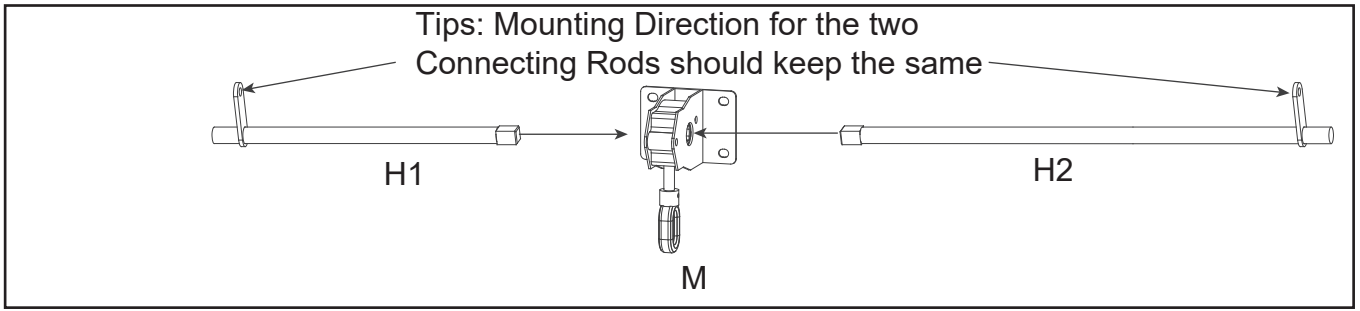

Figure 6.1
6. Insert one side of the two Connecting Rods (H1/H2) into the Spinner (M) and the other side into the Spinner (M), then attach the Spinner (M) to the Rear Lintel (F) and secure it with the Bolts (AA) and Washers (HH). Finally the other end of the Connecting Rods (H1/H2) is attached to the Lintels (B/C/E) using Bolts (CC), Washers (GG/HH) and Nuts (FF). See Figure 6.1- 6.3.